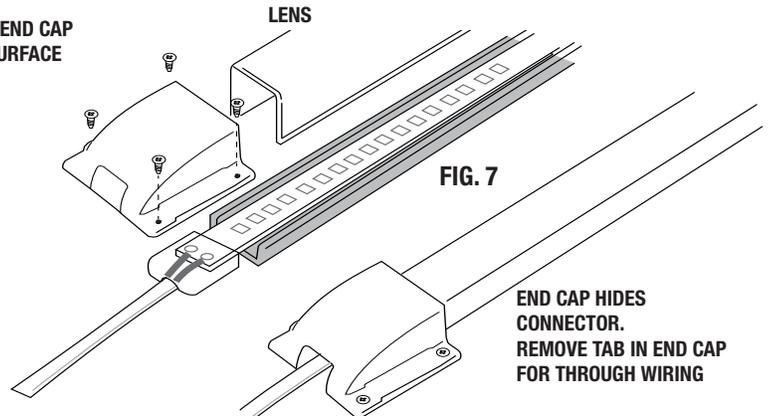

FIG. 7
**4. ATTACHING LENS AND END CAPS** Press lens down so that lens is captured inside rails of mounting channel. Attach end caps - one cap for end of run, the other cap for power connection end. Pry open tab for power connection end for power connector cable. This end cap hides the connector. (FIG. 7)